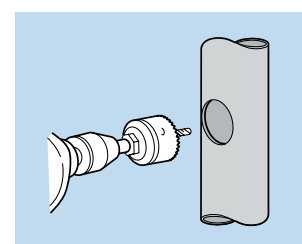

Fig.6
- Cut correct hole size and deburr. For correct size hole cutter refer to table on page 59 (Fig.6).